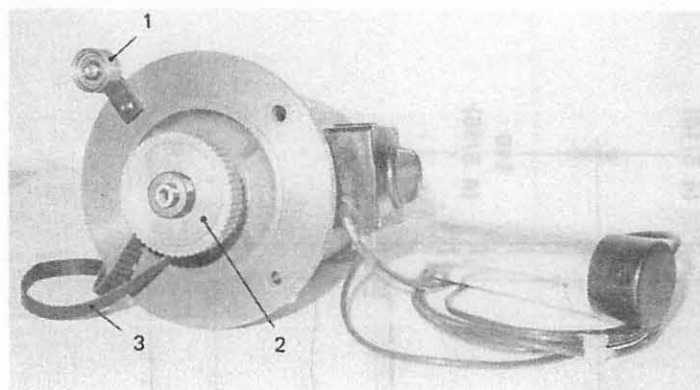

Fig. 2
2. Take the motor from its wrappings and prepare as shown in Fig.2.
- a) Mount the flat-belt tensioning pulley (Fig.2, No.1) in the position shown with the Spanner SW 17.
- b) Place the flat belt (Fig.2, No.3) on the belt pulley (at the back of No.2).
A threaded hole (M 6) has to be made into the motor shaft on the face side of the motor. The motor belt pulley pressed on to it by you has to be fastened with the cup wheel and socket head screw (M 6x12 DIN 912) (see Fig. 2).